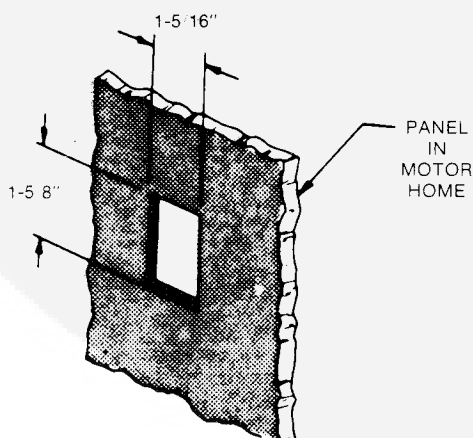

FIGURE 11. MOTOR HOME CUTOUT FOR STANDARD CONTROL PANEL
1. Select control location. Using Figure 11 or 12 as a guide, drill screw holes and cut hole to accommodate remote switch in dash panel.